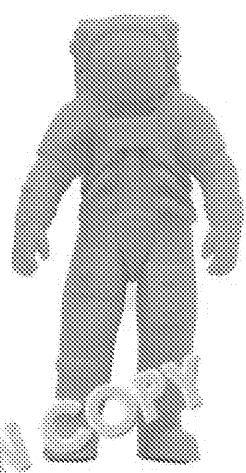

Figure 5
7.1. Figure 5 shows a 3D printed toy figure.